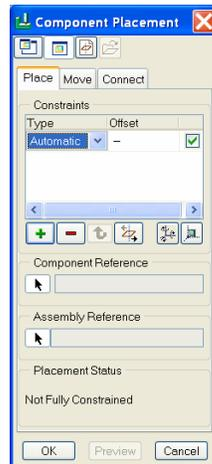
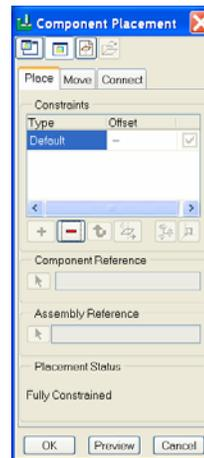

Figure 1.16
Figure 1.17
- 4) Load the part. From MANUFACTURE menu, select Mfg Model → Assemble → Ref. Model. Select CAM.prt in the open window. The component Placement window pops up. Select  to place the part at default location as shown in Figure 1.16. Click OK to close Component Placement windows as shown in Figure 1.17.